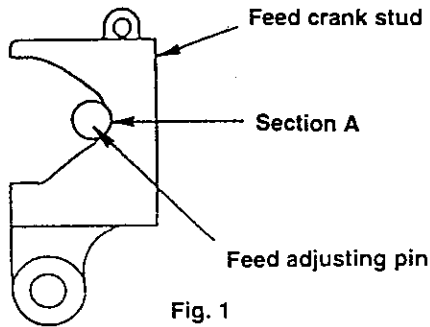

Fig. 1
1) Zero (0) point of feed adjusting mechanism
- Align the feed adjusting pin with section A of the feed crank stud. (Fig. 1)